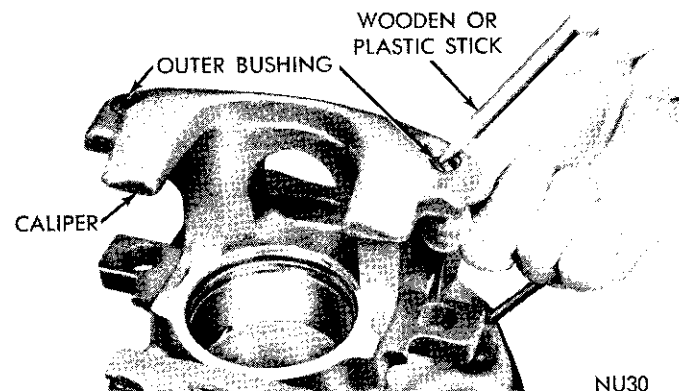

Fig. 13—Removing Outer Bushings
(6) Remove outer bushings from caliper by pressing out of bore (Fig. 13), using a suitable tool. Discard bushings.
(7) Slide inner bushings (flanged) off guide pins and discard. Remove positioners from guide pins and discard.
(5) Remove outer bushings from caliper by pressing out of bore, (Fig. 13) using a suitable tool. Discard bushings.
(6) Remove inner bushing and discard. Remove bleeder screw.